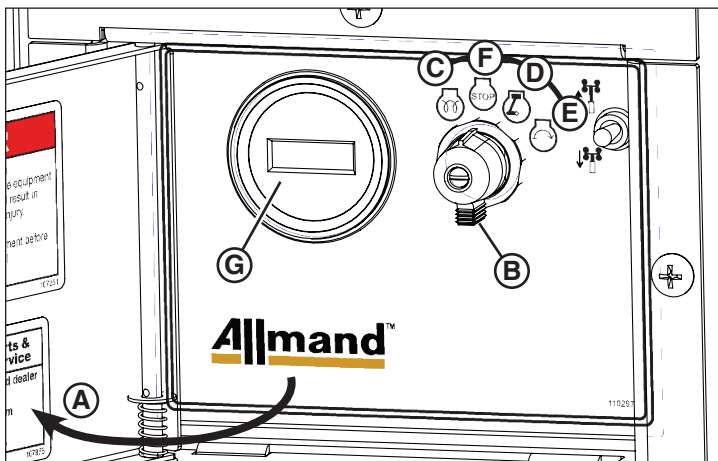

Figure 17
1. Open the engine panel door (A, Figure 17).
2. Turn the ignition switch (B, Figure 17) on the control panel counterclockwise to PREHEAT (C). Hold for approximately 20 seconds.
2. Turn the switch clockwise past RUN (D, Figure 17) to START (E).
NOTE: The hourmeter (G, Figure 17) indicates the total hours of engine operation.